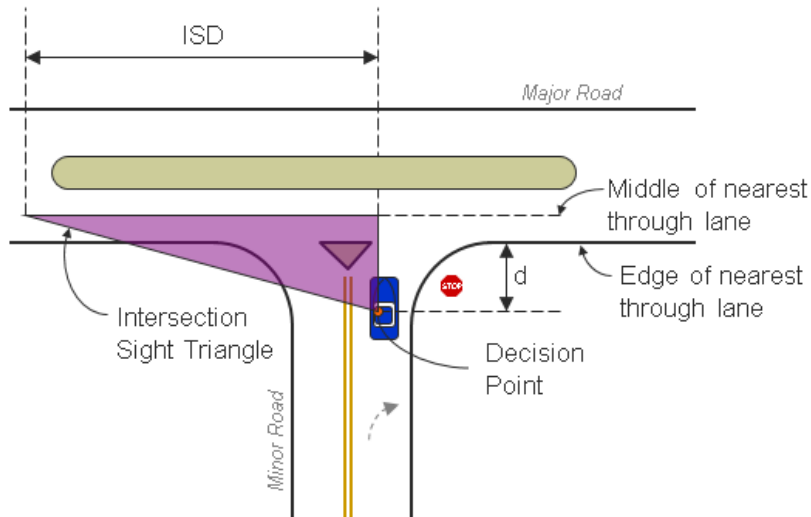

Figure 3. Right turners looking left
B. Right out only, stop control: The sight triangle for a stop controlled intersection with only right turns allowed from the minor road shall be based on Figure 3 and Table 2.
- B. Signal approaches with right turns on red allowed that are not defined by II A, shall follow the criteria for right out only, stop control (Figure 3 and Table 3).
- C. Signal approaches not described by the conditions in either II A or II B shall use an intersection sight distance based on all-way stop control (ID).